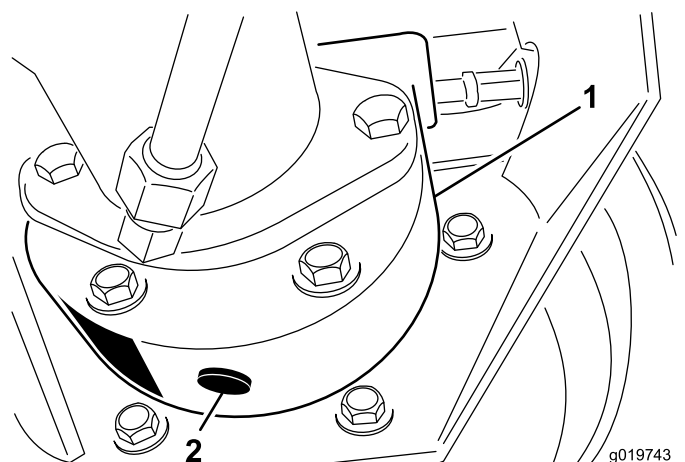

Figure 70
3. Place another drain pan under the brake housing, remove the drain plug and allow the oil to drain (Figure 70).